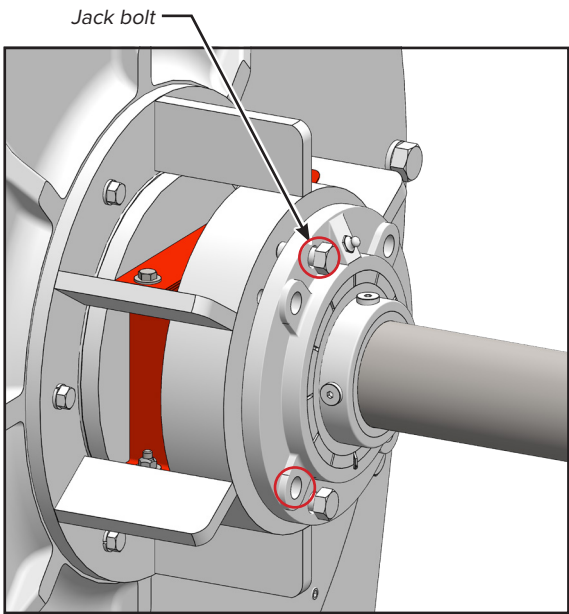

FIGURE 11
- 7. Remove the bearing from the bearing support using the jack bolt locations (figure 11). Tighten jack bolts alternately so bearing does not seize on shaft.